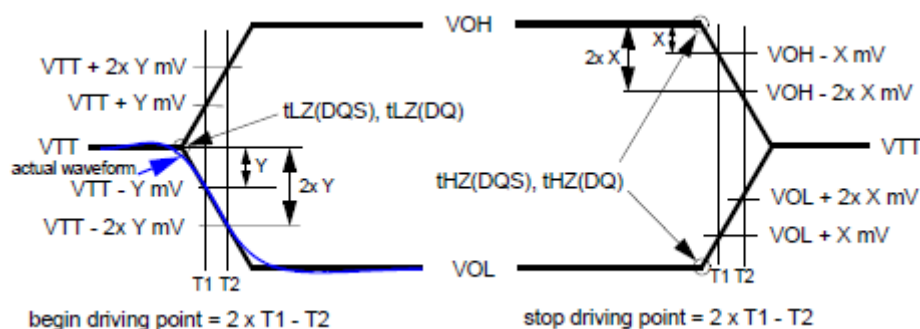

Figure 11.1 — HSUL\_12 Driver Output Reference Load for Timing and Slew Rate
12. For low-to-high and high-to-low transitions, the timing reference will be at the point when the signal crosses VTT. tHZ and tLZ transitions occur in the same access time (with respect to clock) as valid data transitions. These parameters are not referenced to a specific voltage level but to the time when the device output is no longer driving (for tRPST, tHZ(DQS) and tHZ(DQ)), or begins driving (for tRPRE, tLZ(DQS), tLZ(DQ)). Figure 11.1 shows a method to calculate the point when device is no longer driving tHZ(DQS) and tHZ(DQ), or begins driving tLZ(DQS), tLZ(DQ) by measuring the signal at two different voltages. The actual voltage measurement points are not critical as long as the calculation is consistent.